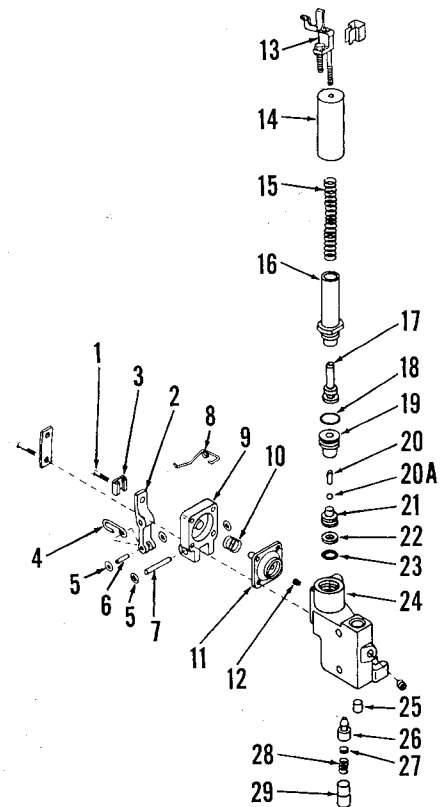

Fig. 238—Exploded view of servo valve assembly.
control adjusting screw (1—Fig. 238) out of pivot lever (2) until end of bolt is flush with inside of lever. Remove adjusting block (13), tube (14) and spring (15) from servo valve if not removed previously. Unhook diaphragm lever link (4) from control valve, remove valve mounting stud nut, and remove servo valve from top of pump.
227. SERVO VALVE. Refer to Fig. 238 for exploded view of servo valve. Unbolt and remove diaphragm cover (9). Use an Allen wrench to remove orifice plug (12). Thread a suitable screw into retainer plug (29) and remove retainer, spring (28), discs (27) and secondary relief valve (26). Remove guide (16) and spring support (17), then bump housing to remove plunger (20) and ball (20A). Use hooked wire to pull plunger guide (19) from bore then use needle nose pliers to pull ball valve seat (21) from bore.